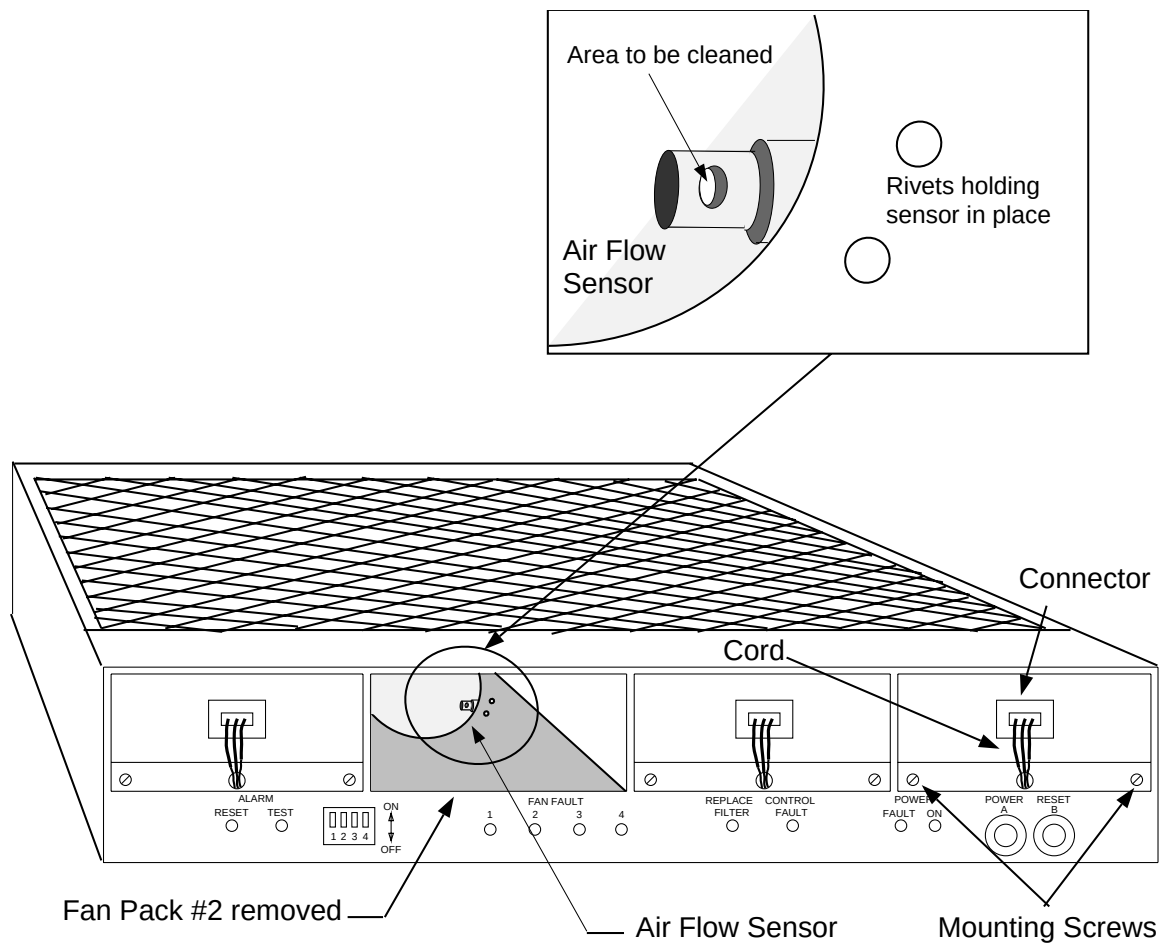

Figure 2. DDM-2000 Fan Shelf — Air Flow Sensor Location
Remove fan pack #2. See Figure 2.
29. Locate air flow sensor (Figure 2) and direct a gentle blast of clean dry air toward the center of the vertical sensor orifice.